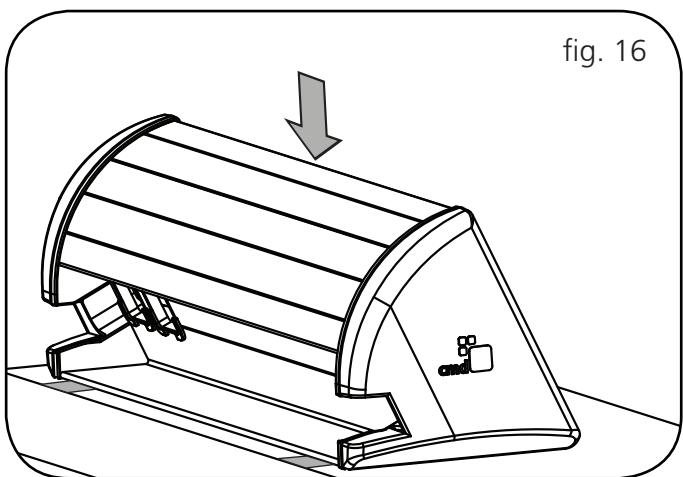

fig. 16
1. Hold the unit firmly, whilst pulling the tab towards you (fig. 16).